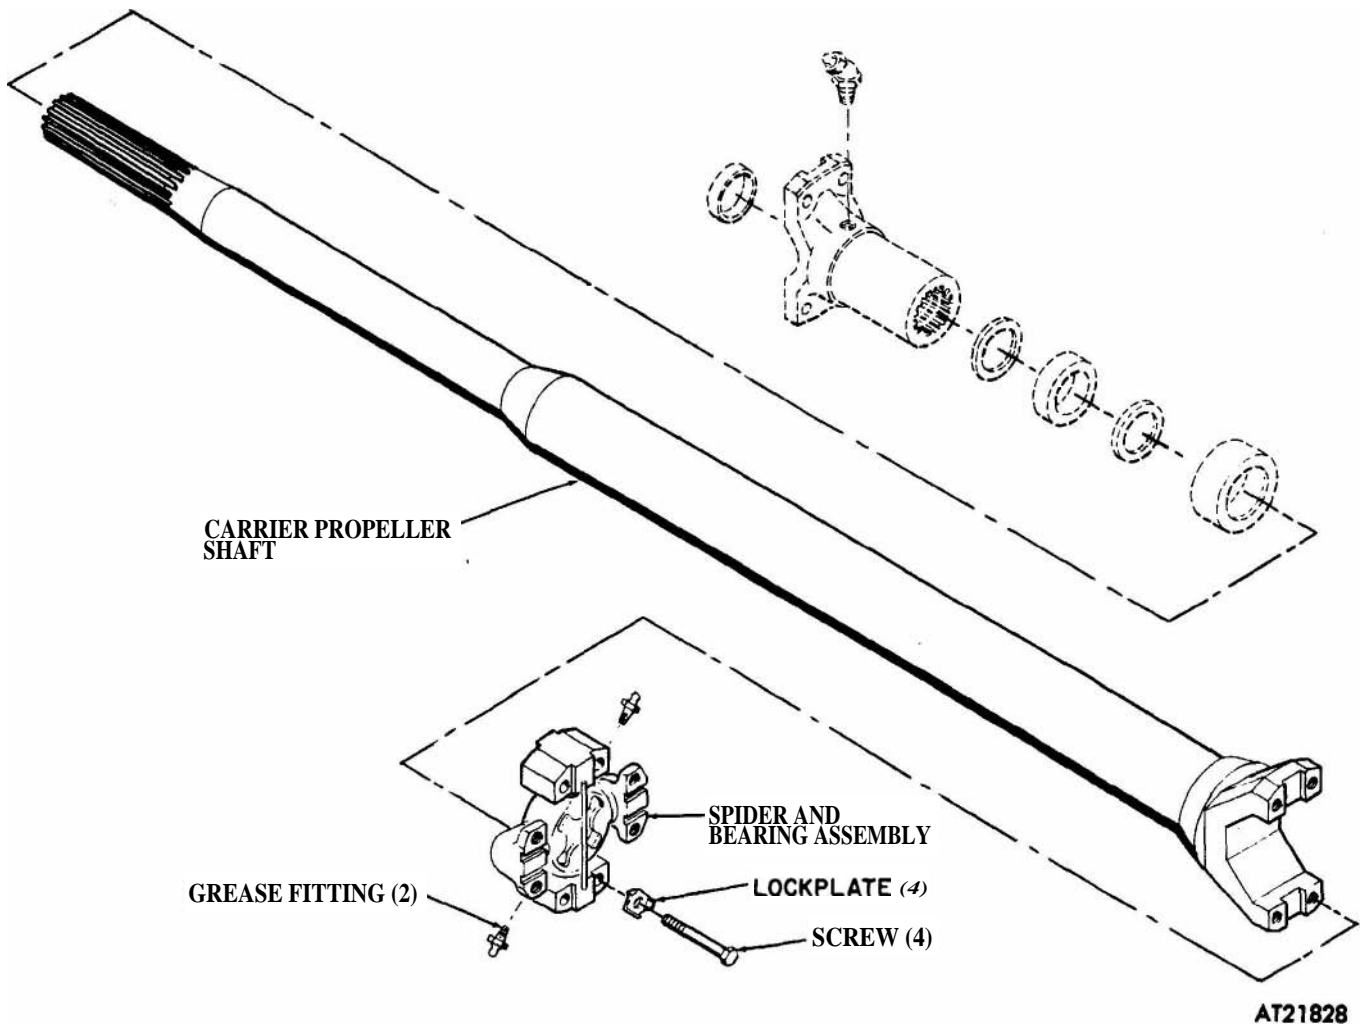

Figure 2-175. Carrier propeller shaft, disassembly and assembly.
assembly to propeller shaft (fig 2-175).
(1) Position spider and bearing assembly to propeller shaft and secure with four screws and lock plates. Bend tabs of lock plates to secure screws (fig 2-175).